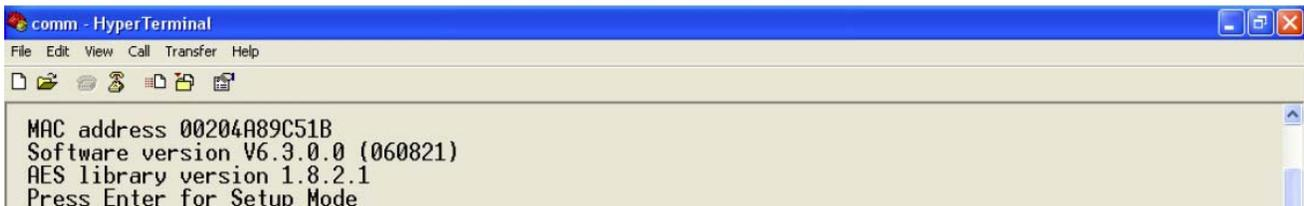

Figure 10. Display Information for Setup Mode
6. For 720i, 820i, iQUBE², LaserLT: Unplug the indicator’s main power. On the PC keyboard, press and hold the **X** key while reconnecting indicator power. When the screen shown in Figure 10 displays, press **Enter** on the PC keyboard within 5 seconds.
For CW-90/90X, Counterpart: With AC power connected, power the unit off using the front panel button. On the PC keyboard, press and hold the **X** key while powering the unit back on using the front panel button. When the screen shown in Figure 10 displays, press **Enter** on the PC keyboard within 5 seconds.